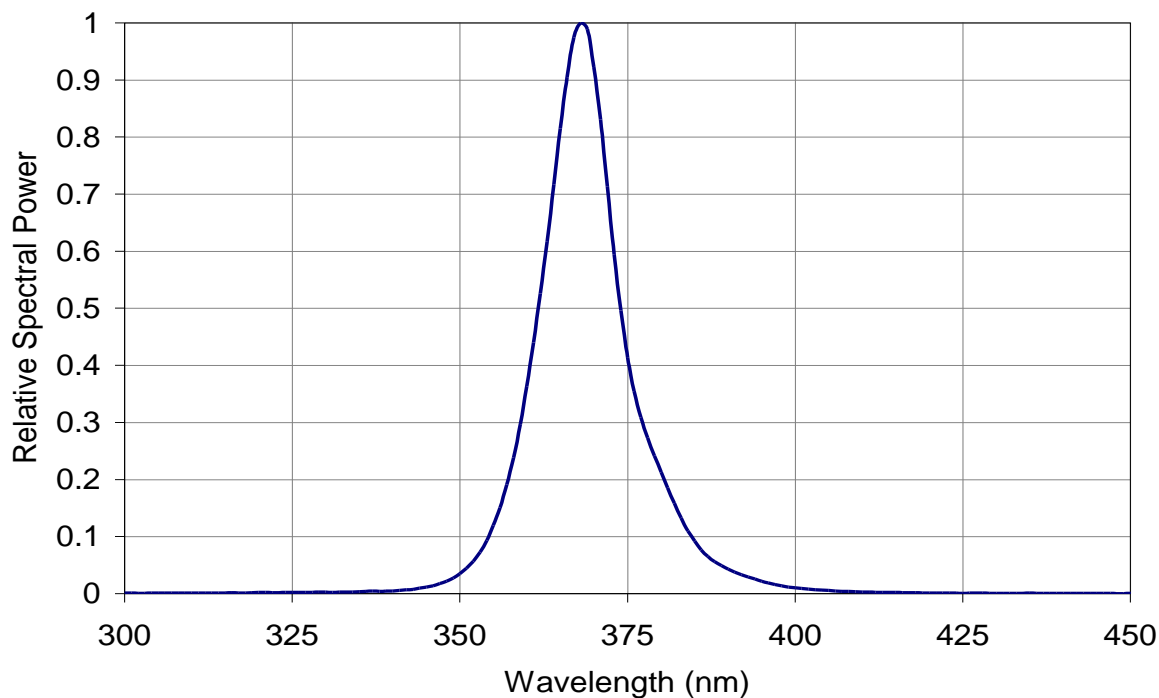

Figure 5: Typical relative spectral power vs. wavelength @  $T_c = 25^\circ\text{C}$
- Solder conditions per JEDEC 020D. See Reflow Soldering Profile Figure 5.